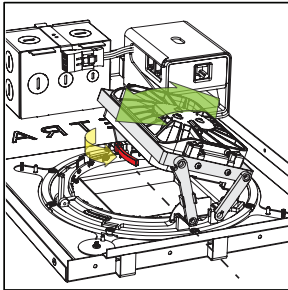

fig. 14
- b. Unlock the emitter chassis: reach into the D2's housing and unlock tilt lock and rotation lock levers (both colored red) (see fig. 14).